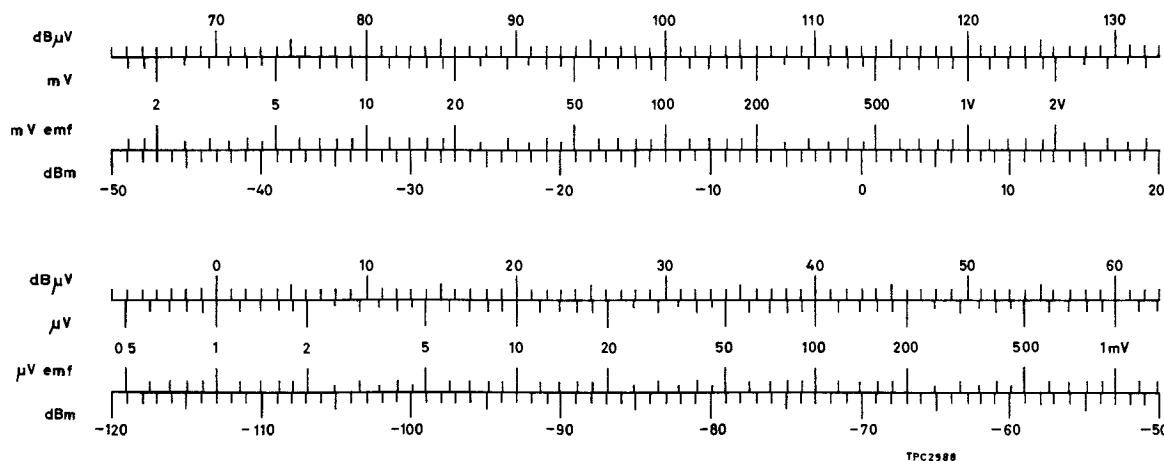

Fig. 3 Output conversion scale
22. The RF OUTPUT controls (coarse and fine attenuators) are calibrated in V e.m.f. Where dB $\mu$ V or dBm levels are to be used reference should be made to the conversion scale on the top of the instrument. The scale is as shown in Fig. 3.